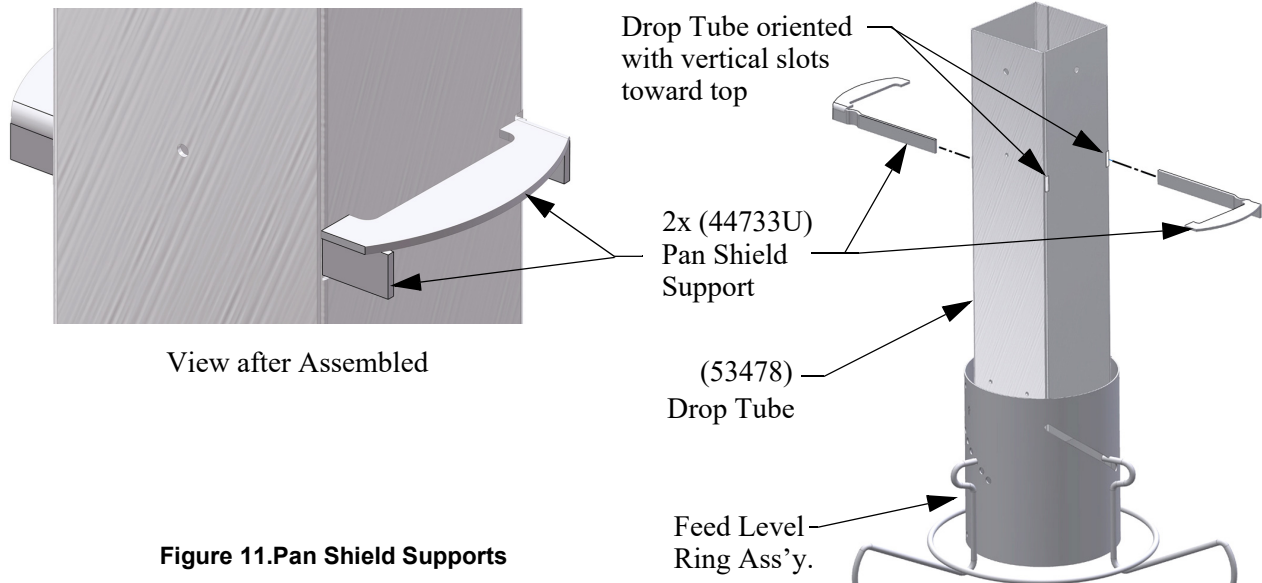

**Figure 9. Attaching Pan Shield**
1. Attach four ATF Struts (49171) to the Pan Shield (49137) with 1/4-20 Carriage Bolts (22692) and 1/4-20 Lock Nuts (1269) as shown in **Figure 9**.